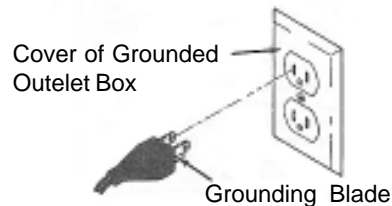

Figure 1
- The plug on the Shopsmith Dust Collector has three prongs, as shown in Figure 1. The receptacle should have three corresponding holes.